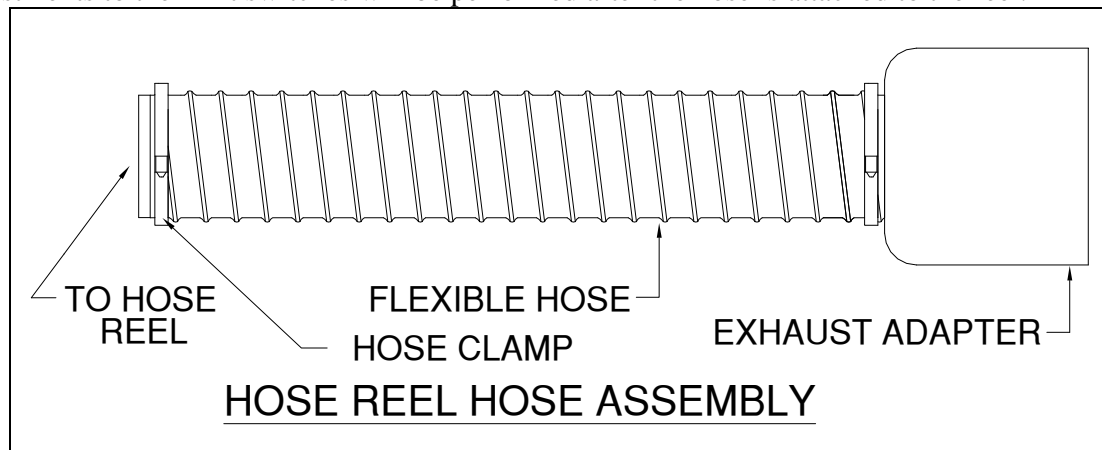

FIG 3
7. Assemble the flexible hose assembly as shown in FIG 3.